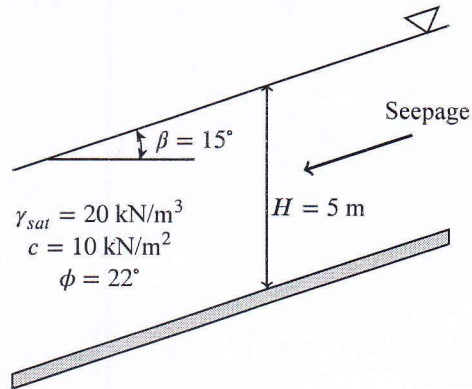

Figure 4: for QUESTION 8(c)
8. (a) What do you understand by the factor of safety of a slope? (2)
- (c) For the infinite slope shown in the following figure (Fig. 4), determine: (3 + 3 = 6)
4. Fig. 4 shows a frame $oabcdef$ whose joints o and c rotate 1° (clockwise) due to the applied loads. Use Stiffness Method considering flexural deformations only to calculate the distributed load (w_0) and moment (M_0) applied as well as the rotation at joint d of the frame [Given: $EI = 40 \times 10^3$ k-ft²].